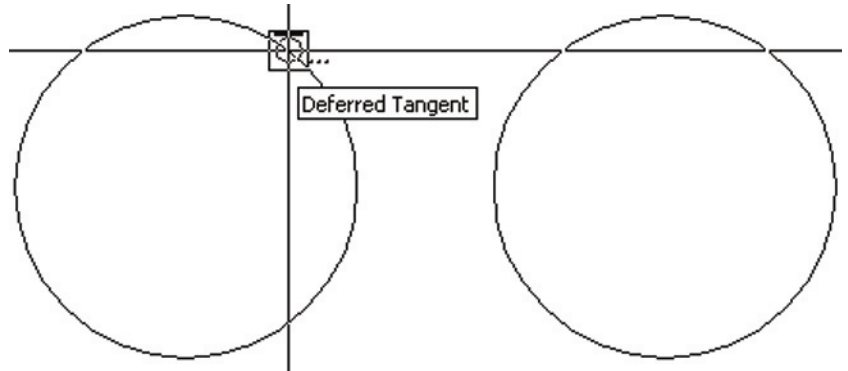
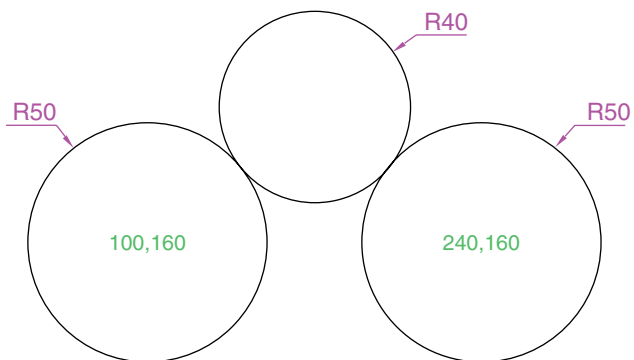

Fig. 2.14 Second example – **Circle** tool – the two circles of radius 50
Fig. 2.15 Second example – **Circle** tool. The radius-40 circle tangential to the radius-50 circles
Second example – Circle tool (Fig. 2.14)
2. *Left-click* on the **Circle** tool icon and construct two circles as shown in the drawing Fig. 2.14 in the positions and radii shown in Fig. 2.15.
The radius **40** circle tangential to the two circles already drawn then appears (Fig. 2.15).